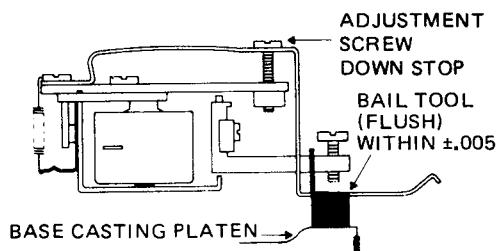

FIGURE 3 HEAD LOAD ACTUATOR DOWN STOP ADJUSTMENT
- d. Adjust down stop so that the top of Head Load Bail is flush with top of tool within $\pm .005$ " at track 76. Reference Figure 3.